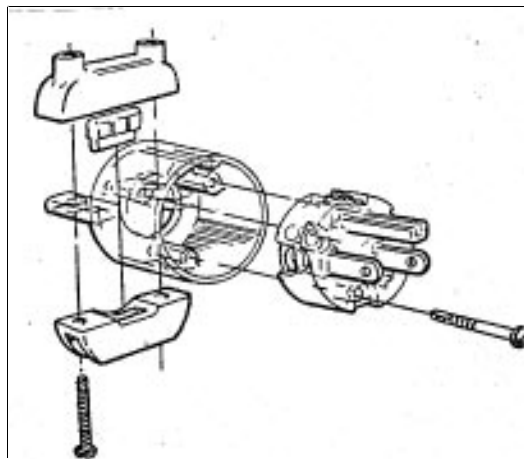

Figure 2-60 Hospital Plug Assembly
3. Using hospital plug assembly part number 730054 (figure 2-60), insert the stripped conductors into the appropriate terminals of the assembly (see table below) and tighten the screws.